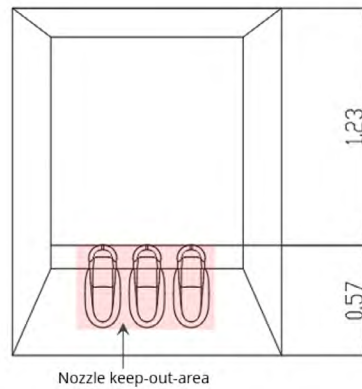

Figure 12. Nozzle keep-out-area in shaded red area. Nominal dimensions in mm.
- During setup and the first initial production runs, it is a good practice to inspect the top surface of LUXEON emitter under a microscope to ensure that emitters are not accidentally damaged by the pick and place nozzle. For example, on LUXEON Rubix AlInGaP (Red), inspect for any disturbance to the wire bonds during initial setup by avoiding the nozzle tip in contact with the keep-out-area (Figure 12).